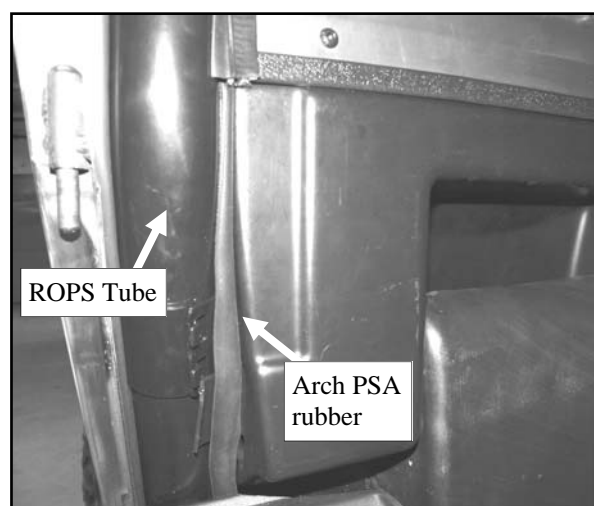

Fig. 9.6 (View of driver's side)
9.6 See fig. 9.6. Apply the supplied Arch PSA rubber to the R.O.P.S. tube to seal against the plastic rear panel as shown. For best adhesion, apply to a clean, dry surface. Repeat on passenger's side.